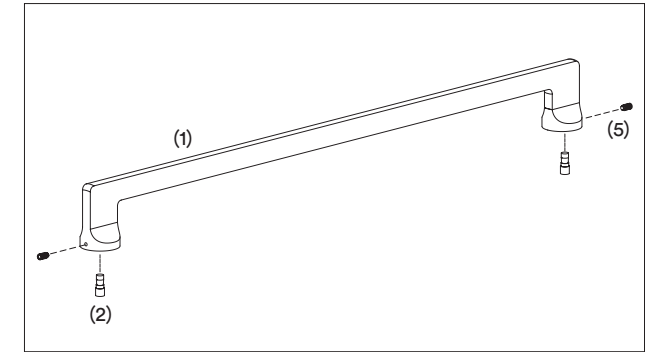

Figure 4.
- 3.1. Remove the pencil spindles from the pull handle by loosening the grub screws. (Figure 4)